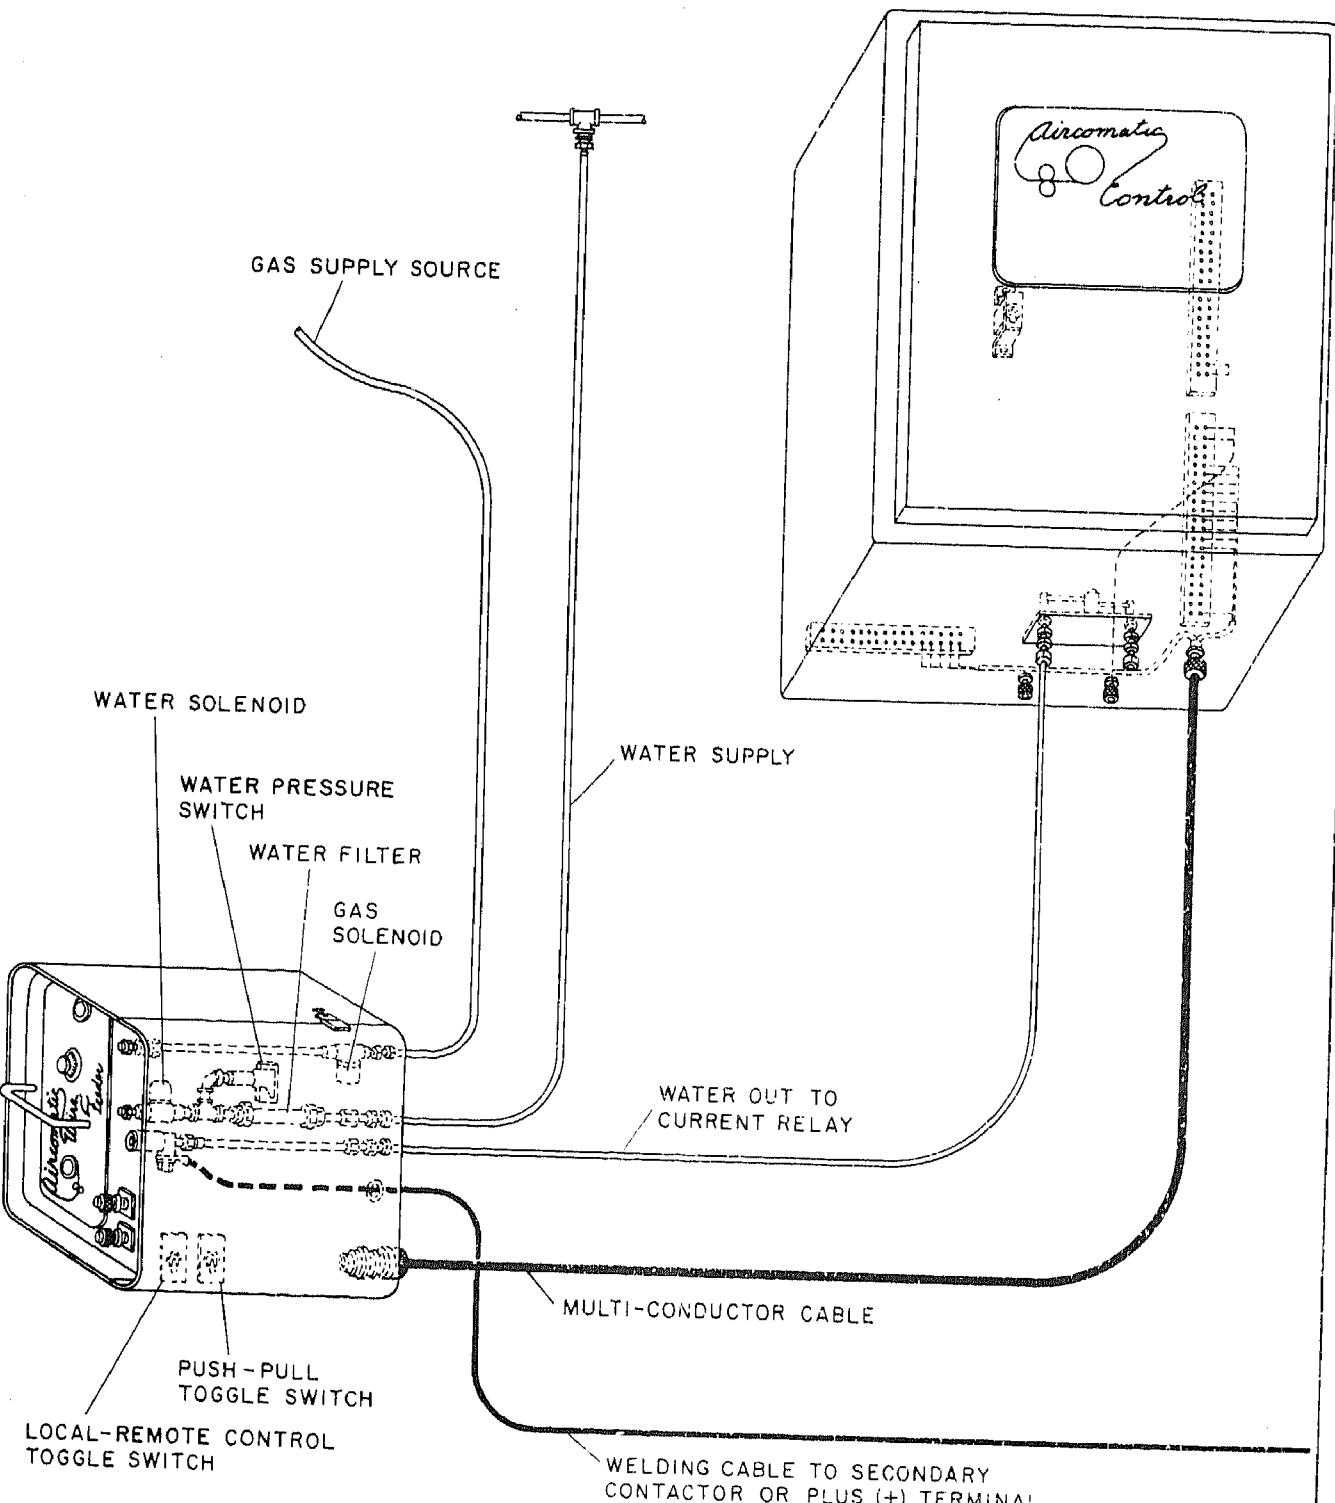

Figure 7. Interconnection Diagram
1. The Feeder is interconnected (Fig. 7) with a Con- l, welding power source, gun, and (if power source es not contain a primary contactor) a secondary ntactor. This requires two water hoses (water- oled guns only), a gas hose, a multi-conductor cable, d a contactor-to-feeder cable (or power source to eder). One of the water hoses (water-out-to-relay) d the multi-conductor cable are supplied in a hose d cable kit available in three sizes as shown in Table The other water hose is a customer-furnished,